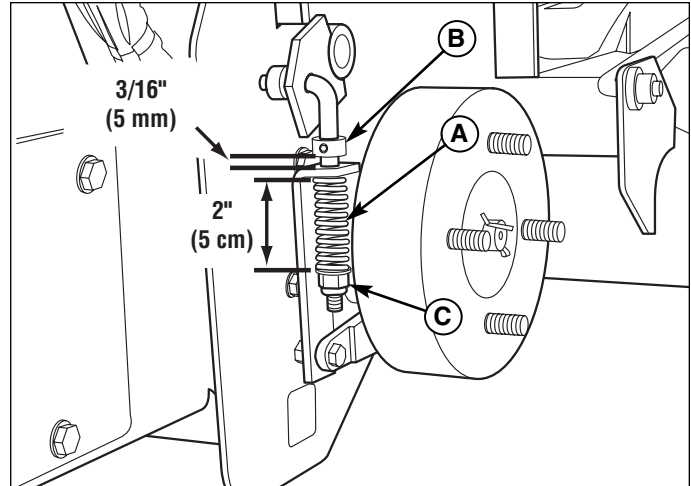

Figure 15. Parking Brake Adjustment
2. Check the brake spring (A, Figure 15) length (both wheels). With the brake engaged the compressed spring length should be 2" (5 cm). If not, adjust the locknut (C) to achieve the compressed spring length of 2" (5 cm).
3. After achieving the correct spring compression, check the set collar gap (B). With the parking brake engaged, the set collar gap should be 3/16" (5 mm). If not, loosen the set collar screw and move the collar to the correct position.